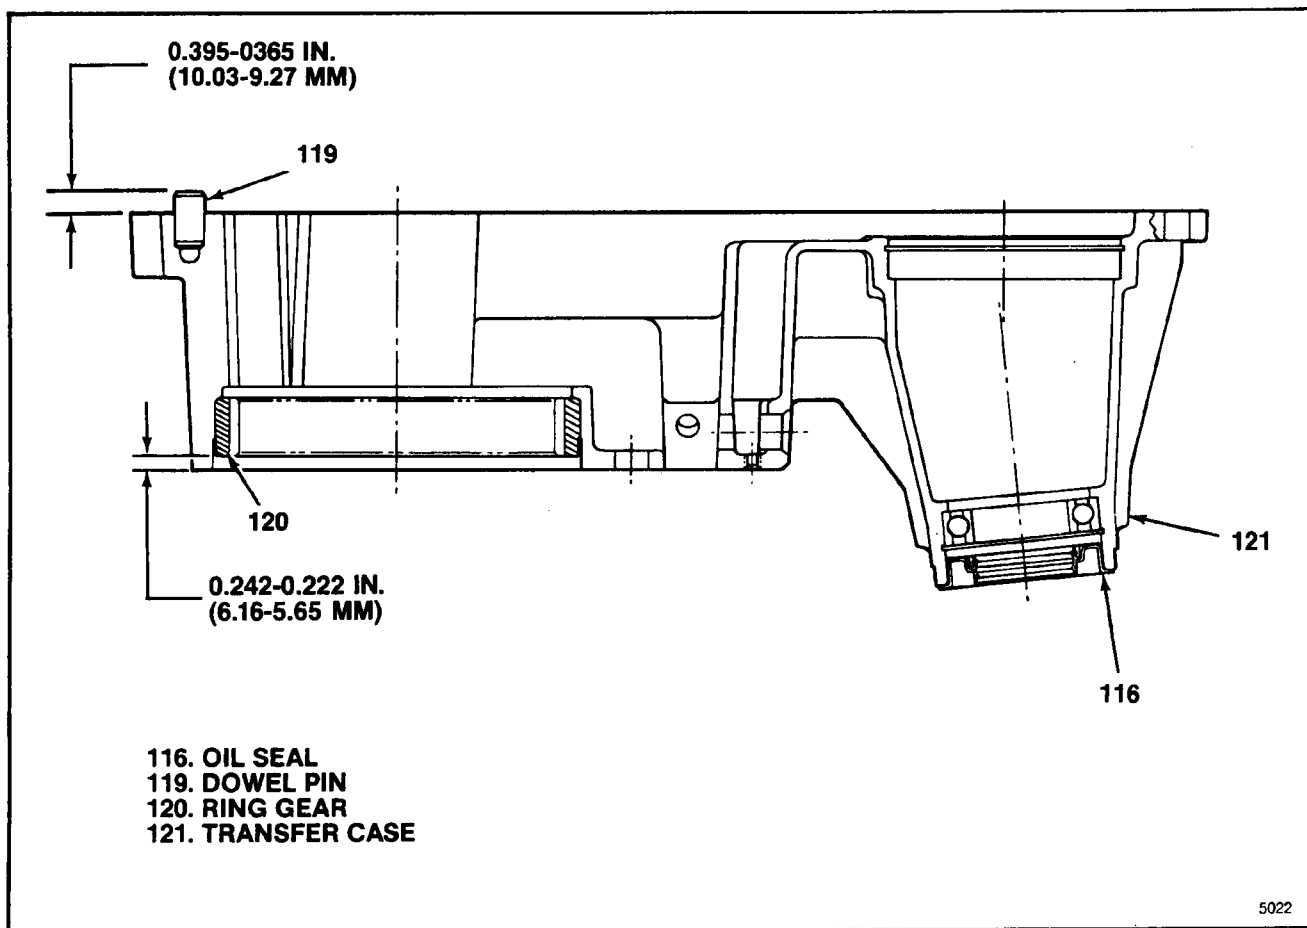

Figure 5-2. Installing Parts in Transfer Case
a. If ring gear (120) was removed for replacement, align serrations on OD of new ring gear with those in transfer case (121). Press in ring gear, chamfered end first, to dimension shown in figure 5-2. Make sure gear is not cocked and is firmly seated in case.
b. If removed, press two new dowel pins (119) into case to dimension shown in figure 5-2.
c. Press in ball bearing (118) to bottom in transfer case (121) and install retaining ring (117).
d. Position new oil seal (116) as shown in figure 5-2 and press in to seat seal flange against transfer case (121).